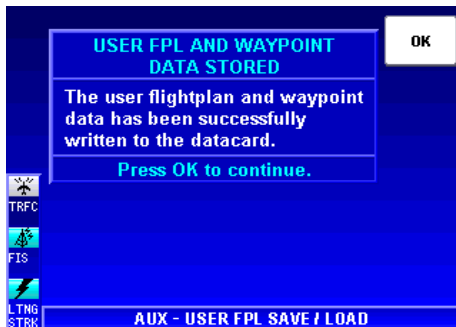

Figure 1-186
8. The flight plans and waypoints are now written to the new card as shown in Figure 1-186. Press the **OK** Softkey.
*NOTE: In units that do not contain the internal GPS, references to flight plans will not be displayed. For example the title of the window in Figure 1-186 will be "USER WAYPOINT DATA STORED".*